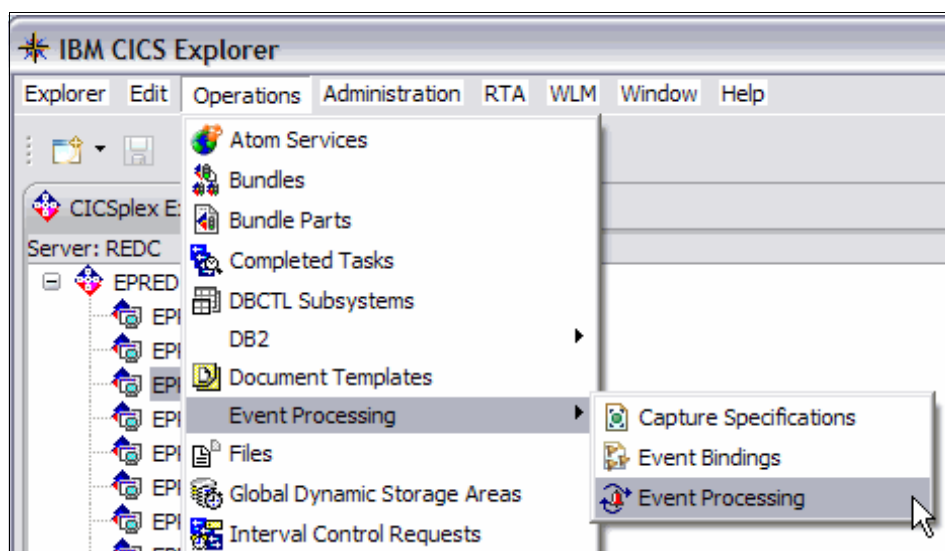

Figure 5-32 Monitor event processing
1. Select CICS region EPRED2 within the CICSplex. Click **Operations Event Processing Event Processing** (Figure 5-32).